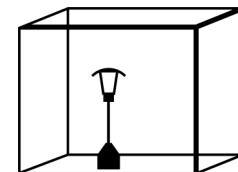

Fig. 2
- 3). The surface area is the sum of the walls surface. (See figure 2)